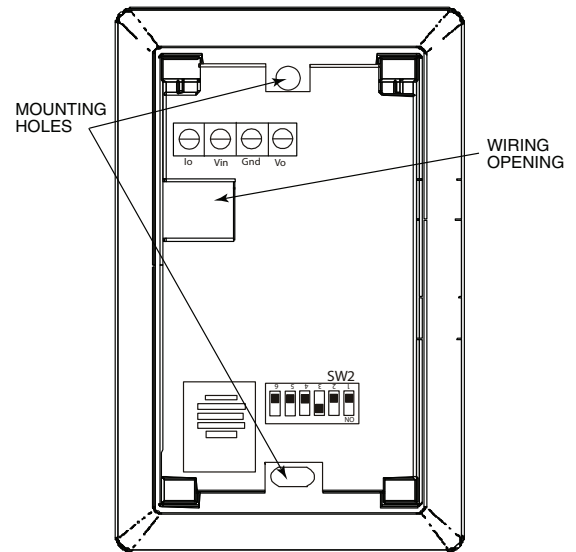

Fig. 63 — Space Relative Humidity Sensor Installation
If the sensor is installed directly on a wall service, install the humidity sensor using 2 screws and 2 hollow wall anchors (field supplied). Do not over tighten screws. See Fig. 63.
1. At the sensor, remove 4 inches of the jacket from the cable. Strip 1/4 inch of insulation from each conductor. Route the cable through the wire clearance opening in the center of the sensor. See Fig. 63.